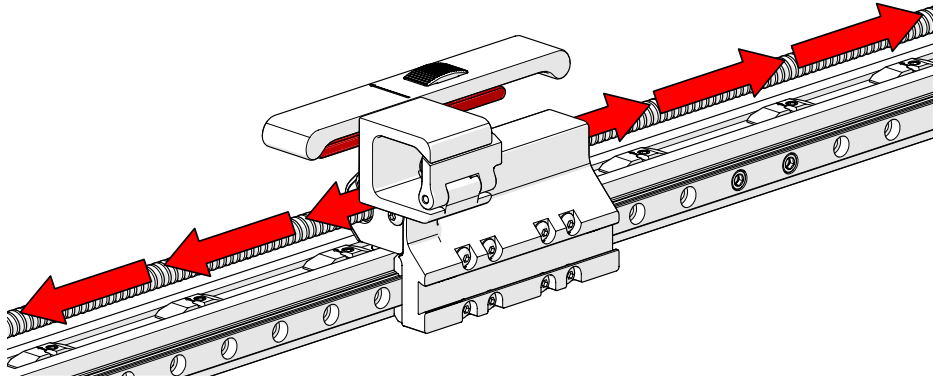

Fig. 36 - Indexing plunger
1. Lift the indexing plunger and move the carrier slightly to release the carrier from the locked position. Lower the indexing plunger and slide the carrier to the next index location where the carrier will lock in position (Fig. 36).